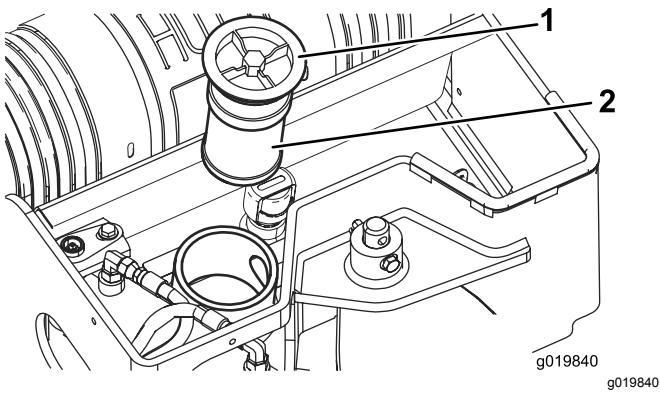

Figure 60
- Clean the area around the filler neck of the hydraulic tank and remove the cap and filter from the filler neck using a socket (Figure 60).